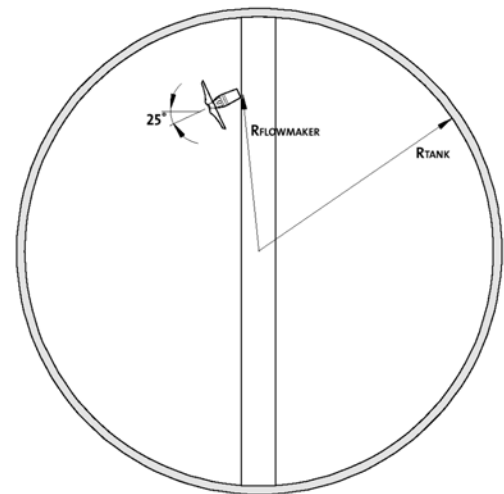

Fig. 6
- In round tanks, the flowmaker should be placed 30% of the tank radius, R_{TANK} , from the wall and it should be turned 25° from the radius, $R_{FLOWMAKER}$, towards the centre, see fig. 6.